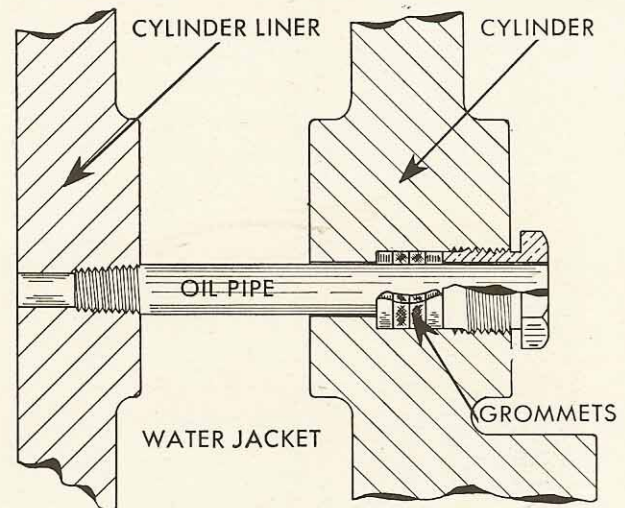

FIGURE 12-15
8. REMOVAL OF THE LINER: Remove the cylinder head, the piston and the connecting rod. Disconnect the oil lines from the mechanical lubricator. Screw out the packing nut, Figure 12-15, and remove the rubber grommets. Screw out the oil pipe.
Screw in both cylinder-lubricating pipes (see Figure 12-15). Use NEW rubber grommets to pack these lubricating pipes. Screw the packing nuts in and connect the mechanical-lubricator tubes.